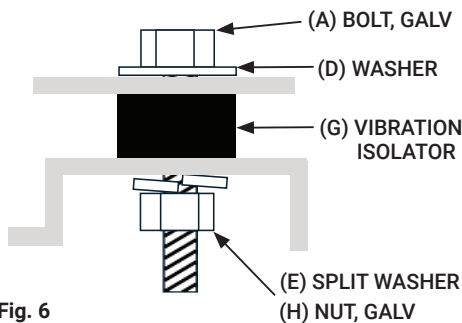

Fig. 6
6. Secure the unit with provided hardware (4), bolt, washer, rubber vibration isolator, mounting rail, lock washer, and nut, as shown in Figure 6. Make sure all bolts are tightened to finish installation.